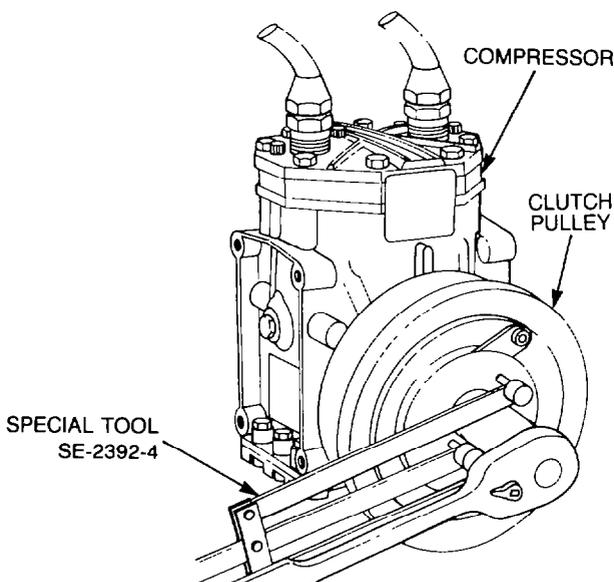

Figure 331 — Clutch Pulley — Removal
- a. Using special tool SE-2392-4 to secure the clutch pulley, (see Fig. 331), remove the pulley retainer bolt, then install the remover bolt SE-2392-5 into the clutch drive hub and remove the clutch pulley assembly from the crankshaft.